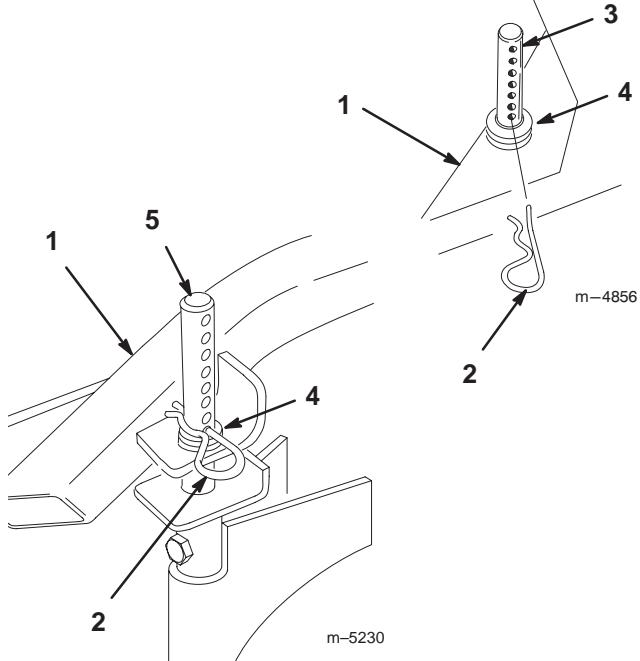

Figure 16
1. To adjust, remove hairpin cotter from height-of-cut post (Fig. 16).
2. Select hole in height-of-cut post corresponding to the height-of-cut desired (Fig. 16).
3. Lift on side of deck and remove hairpin cotter (Fig. 16).
4. Add or remove spacers if needed and then align holes and insert hairpin cotter (Fig. 16).